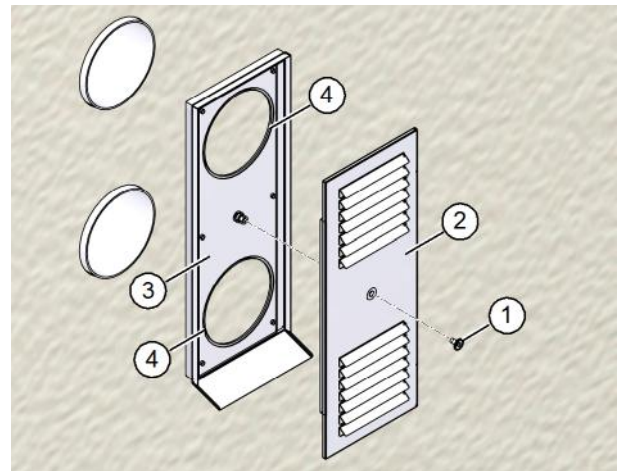

Fig. 18: Removing the cover
- ▶ Use a size 4 Allen key to remove the hexagon socket screw (item 1 in Fig. 18) on the cover (item 2 in Fig. 18) and lift the cover away from the base plate (item 3 in Fig. 18).
- ▶ Fully coat the 4 mm wide sealing surfaces (item 4 in Fig. 18) on the inside with Vaseline.